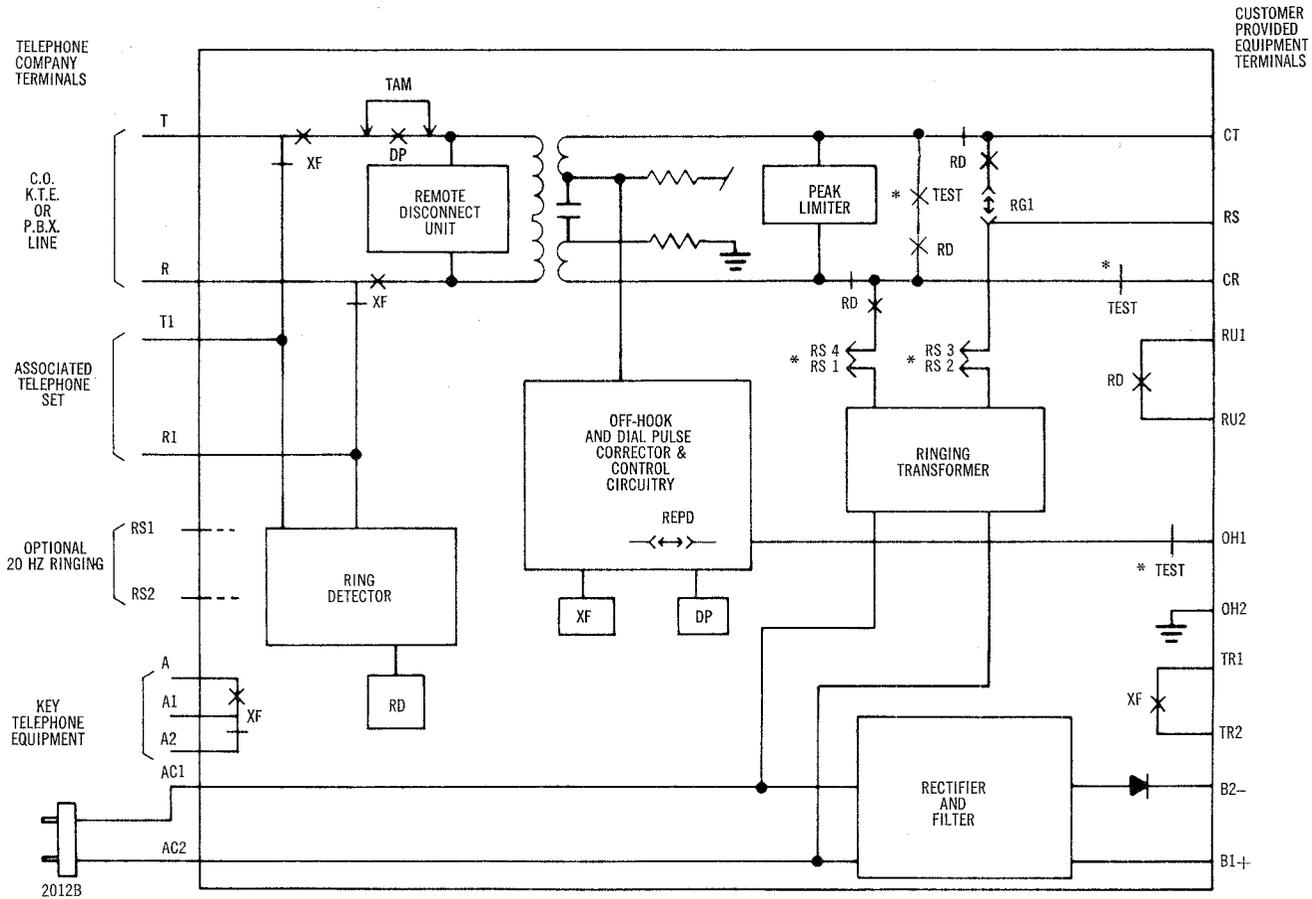

Fig. 3 - Functional Schematic of Voice Station Coupler
**2.12** The terminal block for the connection of the telephone company equipment is located at the left side of the printed circuit board. The functional schematic is shown in Fig. 3 (Table B).
**2.14 Answering an Incoming Call:** The ring detector is activated (Fig. 3) when 20 Hz ringing is present on the line indicating an incoming call. The RD relay, part of the ring detector operates and releases in response to the ringing cycle (i.e., 2 seconds operated — 4 seconds released): The operation of relay RD causes a contact closure between terminals RU1 and RU2. It also causes 20 Hz or 60 Hz ringing voltage from the ringing transformer to be applied between terminals CR and CT or between terminals CR and RS, depending on whether or not the RGI strap is in place (Option G).